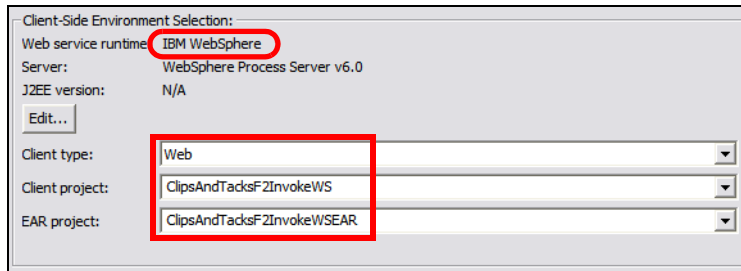

Figure 16-27 Web Service wizard client selection
- ▶ Go through the panels. In the Client Environment Configuration panel, click *Edit* and select *IBM WebSphere* for the Web service runtime. Select *Web* for client type and select the imported Web project (Figure 16-27).